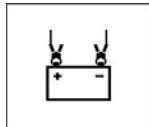

Fig.7
2. If any of the Analyser clip was not properly clamped to the battery contact, the display will flash alternatively between Fig.7 and 8. In such event, unclamp and clamp the clips again on the battery posts to ensure the contacts are good before conducting a test.